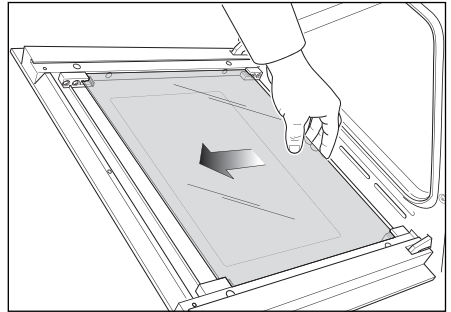

Fig.48b
- Gently unlock the middle pane of glass from the bottom clamps by moving it as in Fig. 48b.